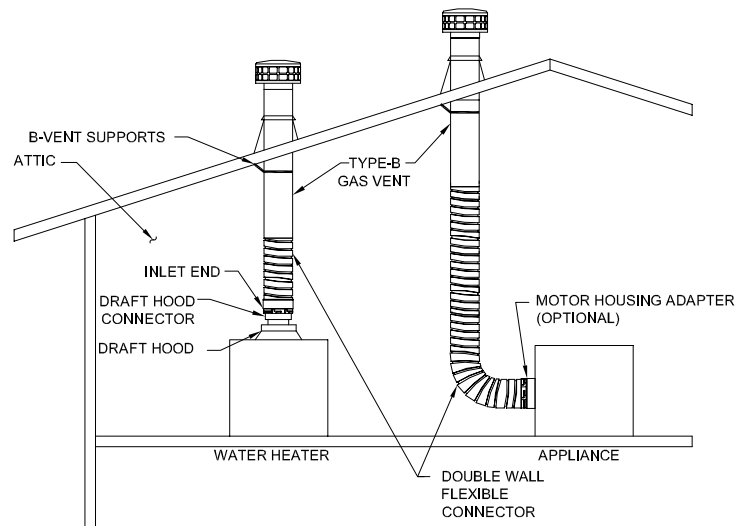

FIG. 6
5. When used as a segment of Type-B gas vent in an unenclosed area, such as an attic or crawl space, install the double wall flexible connectors shown in **FIG. 6**.